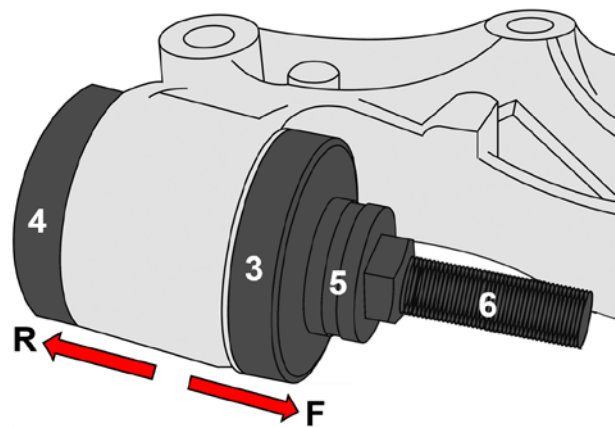

Abb.5
5. Continue turning the nut to install the bushing. The bushing is completely installed, when resistance is felt and the bushing is seated as shown in Figure 5.